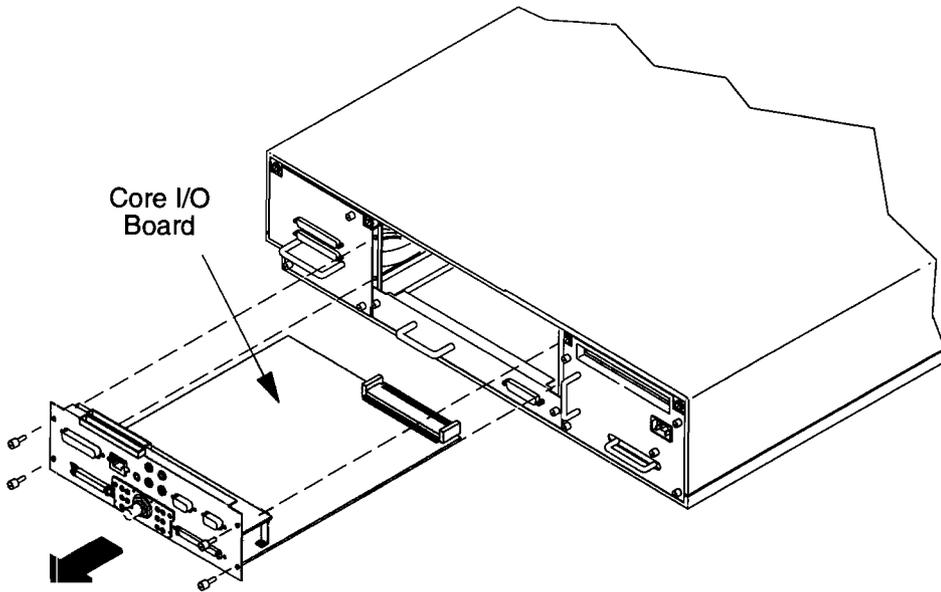

Figure B-2. Removing the Core I/O Board
4. Remove the core I/O board, as shown in Figure B-2.